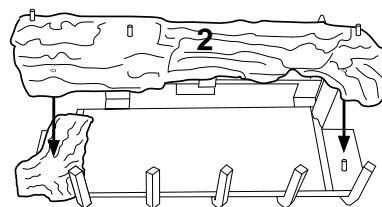

Figure 46 - Installing Log No. 2
2. Rest left side of log #2 (front log) onto top of log #1. Place right side of log onto second pin located on right side of grate (see Figure 46).